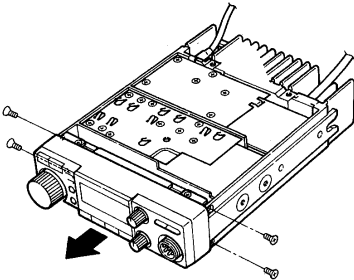

Fig. 2
2) Remove 4 screws from the left and right sides of the front panel. (Fig. 2)
3) Remove the front panel. (Fig. 2)